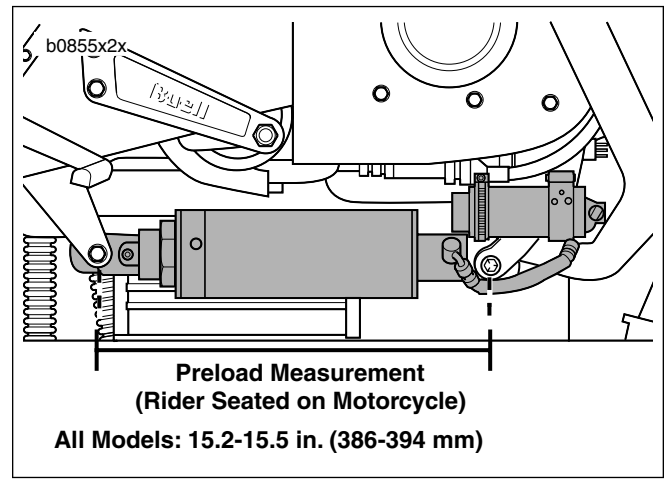

Figure 4. Measuring Preload
- See Figure 4. Check and adjust rear shock preload.